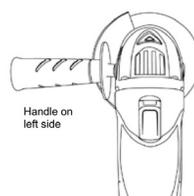

FIG. 6
**NOTE:** The handle can be installed on either the left or right side of the grinder gear housing, depending upon operator preference (Fig. 6 and 7). The side handle must always be used to prevent loss of control and possible injury.
**NOTE:** Rotate the guard so it is positioned correctly depending upon the location of the side handle (Fig. 6 and 7).
Guard must be positioned correctly to protect the operator. Rotate the guard to the correct position as noted in Fig. 6 or 7. Guard placement depends upon where your hand is positioned on the handle.